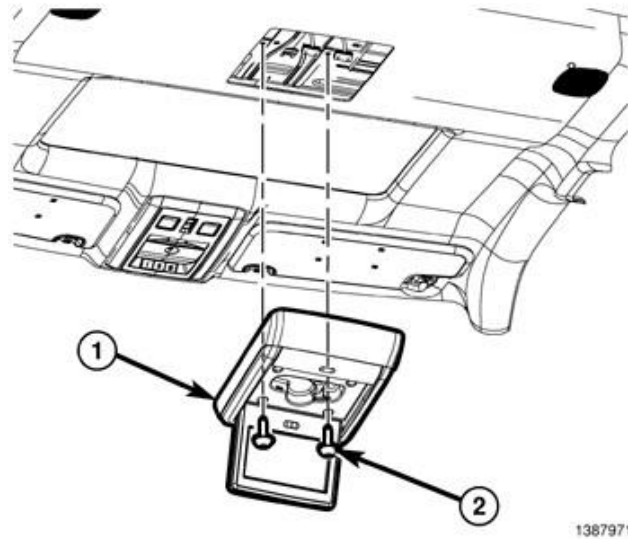
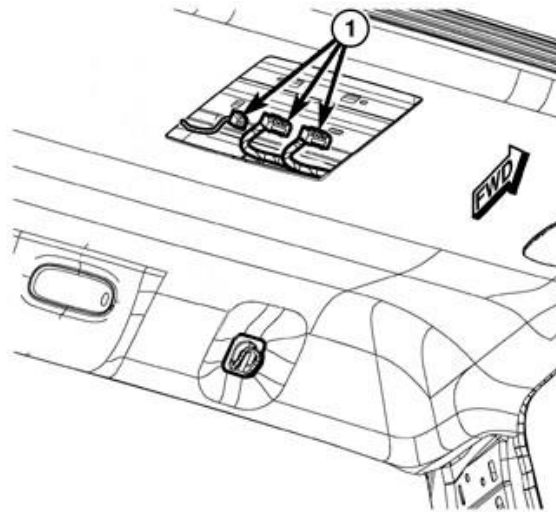

Figure 53 – Rear Seat DVD Monitor
Figure 54 – DVD Monitor Electrical Connectors
47. If equipped with DVD monitor, connect the DVD monitor electrical connectors (1) (Figure 54). Position the DVD monitor to the roof then install and tighten the screws (2) (Figure 53).